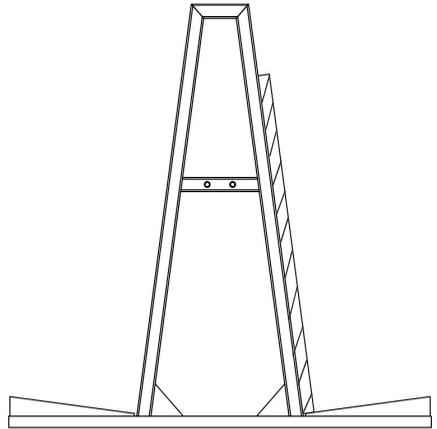

figure 2
- Make sure that the slabs have to be lent back to the Truck A-Frame (figure 2).